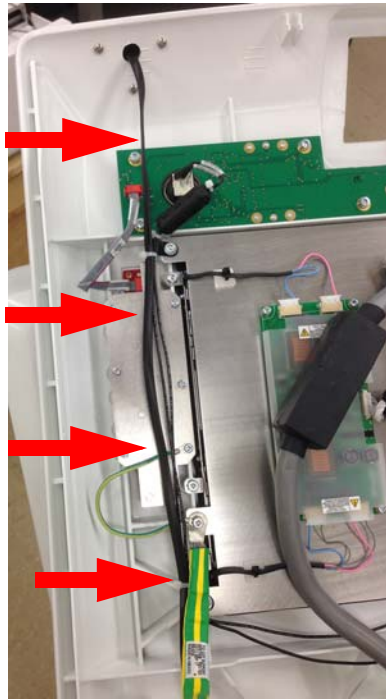

Figure 2-16 Route the cable
16. Route the cable along the power switch cable of the top cover. See Figure 2-16. Zip tie the cables as necessary.